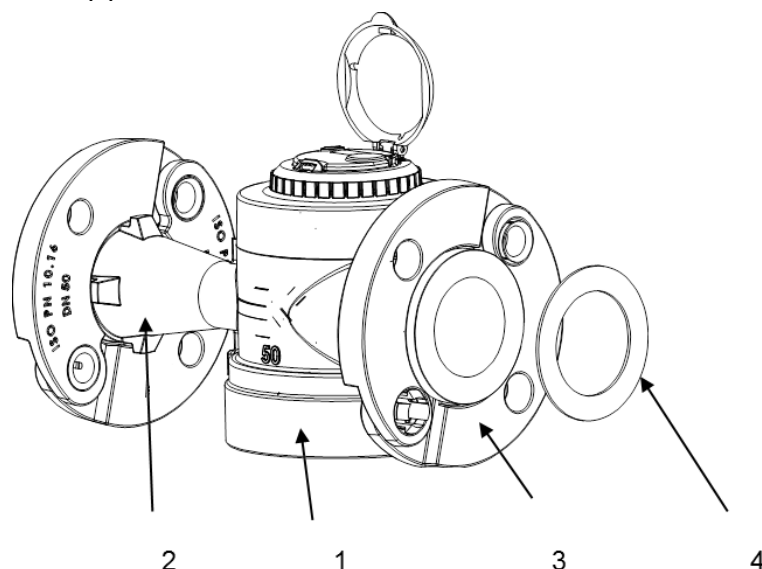

fig.1
AQUILA V4 meter is a single-jet bulk meter. It is made up of a cylindrical body (1) with two nozzles (2). The nozzles have rotating connecting flanges that can be disassembled (3) and an optional pressure connector (not visible in fig.1) on the outlet nozzle. While unpacking the meter, check the indications on the register to make sure it is the required product and check that the seals are present (4).